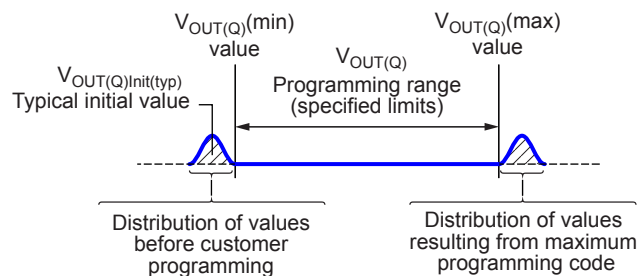

Figure 5: Quiescent Voltage Output Range Definition
**Quiescent Voltage Output Range:** The Quiescent Voltage Output,  $V_{OUT(Q)}$ , can be programmed around 2.5 V within the Quiescent Voltage Output Range limits,  $V_{OUT(Q)(min)}$  and  $V_{OUT(Q)(max)}$ . The available programming range falls within the distribution of the initial  $V_{OUT(Q)}$  and the Max Code  $V_{OUT(Q)}$ , as shown in Figure 5.